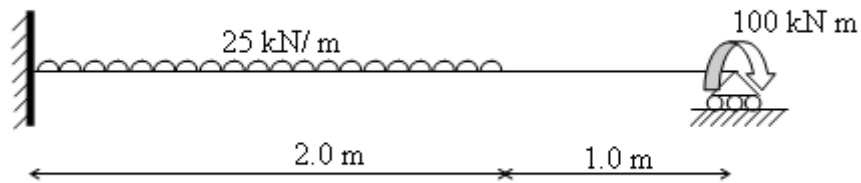

Figure 6:
7. Draw the shear force and bending moment diagrams of the propped cantilever beam loaded as shown in the Figure 6. [15]